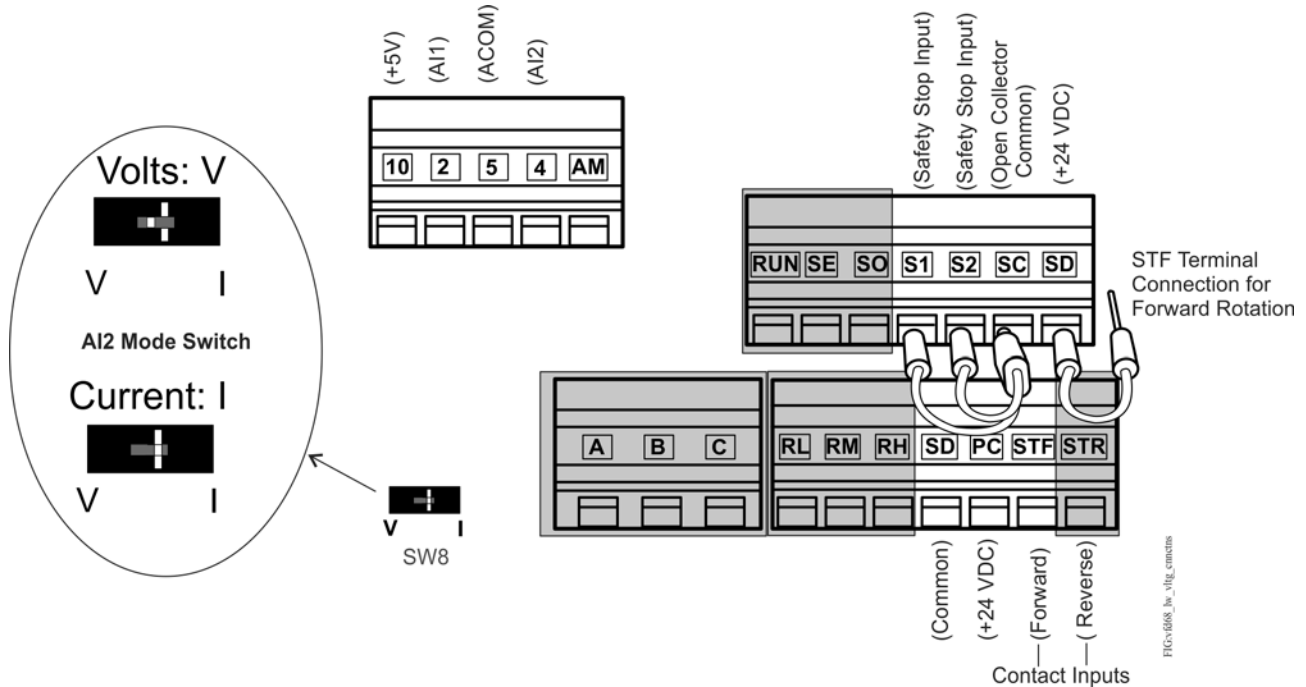

Figure 12: VFD68Bxx and VFD68Cxx Drives Low-Voltage Connections
Low-voltage wiring terminals are located underneath the front cover. See Figure 12 and Table 16.
- See Figure 12 on page 20.
- ensure that the AI2 mode switch (Figure 12 on page 20) is set correctly
2. See Figure 12 on page 20.